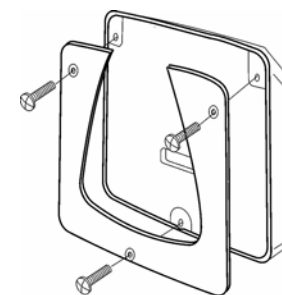

Fig. 1
1. Using the three supplied M4 bolts attach the back plate to the rear of the instrument (Fig.1).